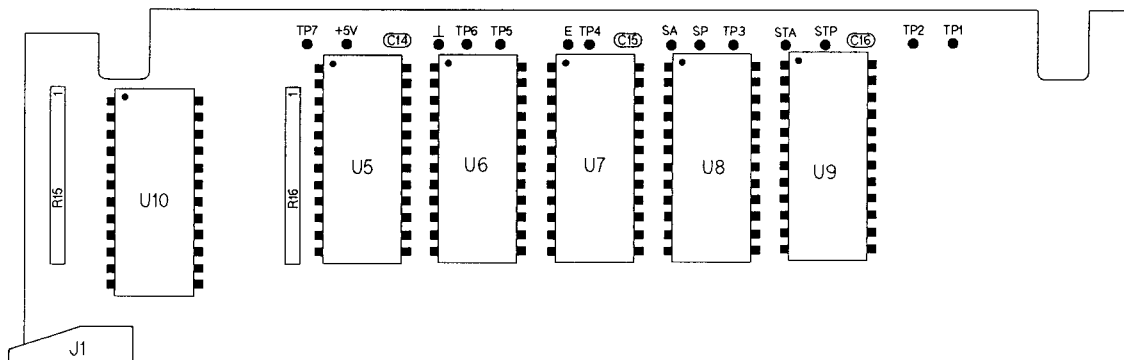

Figure B-4. 08116-66533: ROM layout
2. Figure B-4 shows the location of the ROMs on microprocessor board 66533, modify Figure 10.7-9.